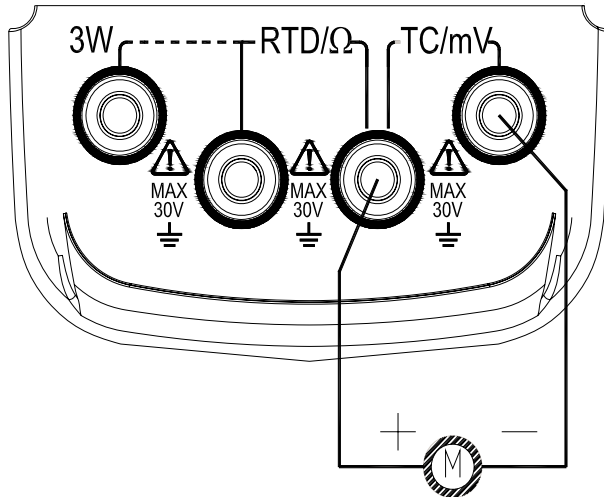

Figure 5-1
1. Insert the testing probe into the jack of the meter's output terminal (TC/mV), and connect the other end with input terminal of the Users' meter, see Figure 5-1:
1. Insert the testing probe into the jack of the meter's output terminal (TC/mV), and connect the other end with input terminal of the Users' meter, see Figure 5-1;
2. Press $\{\text{FUN}\}$ key, select thermocouple(TC) function, and display '°C' unit and 'R' graduation no.;